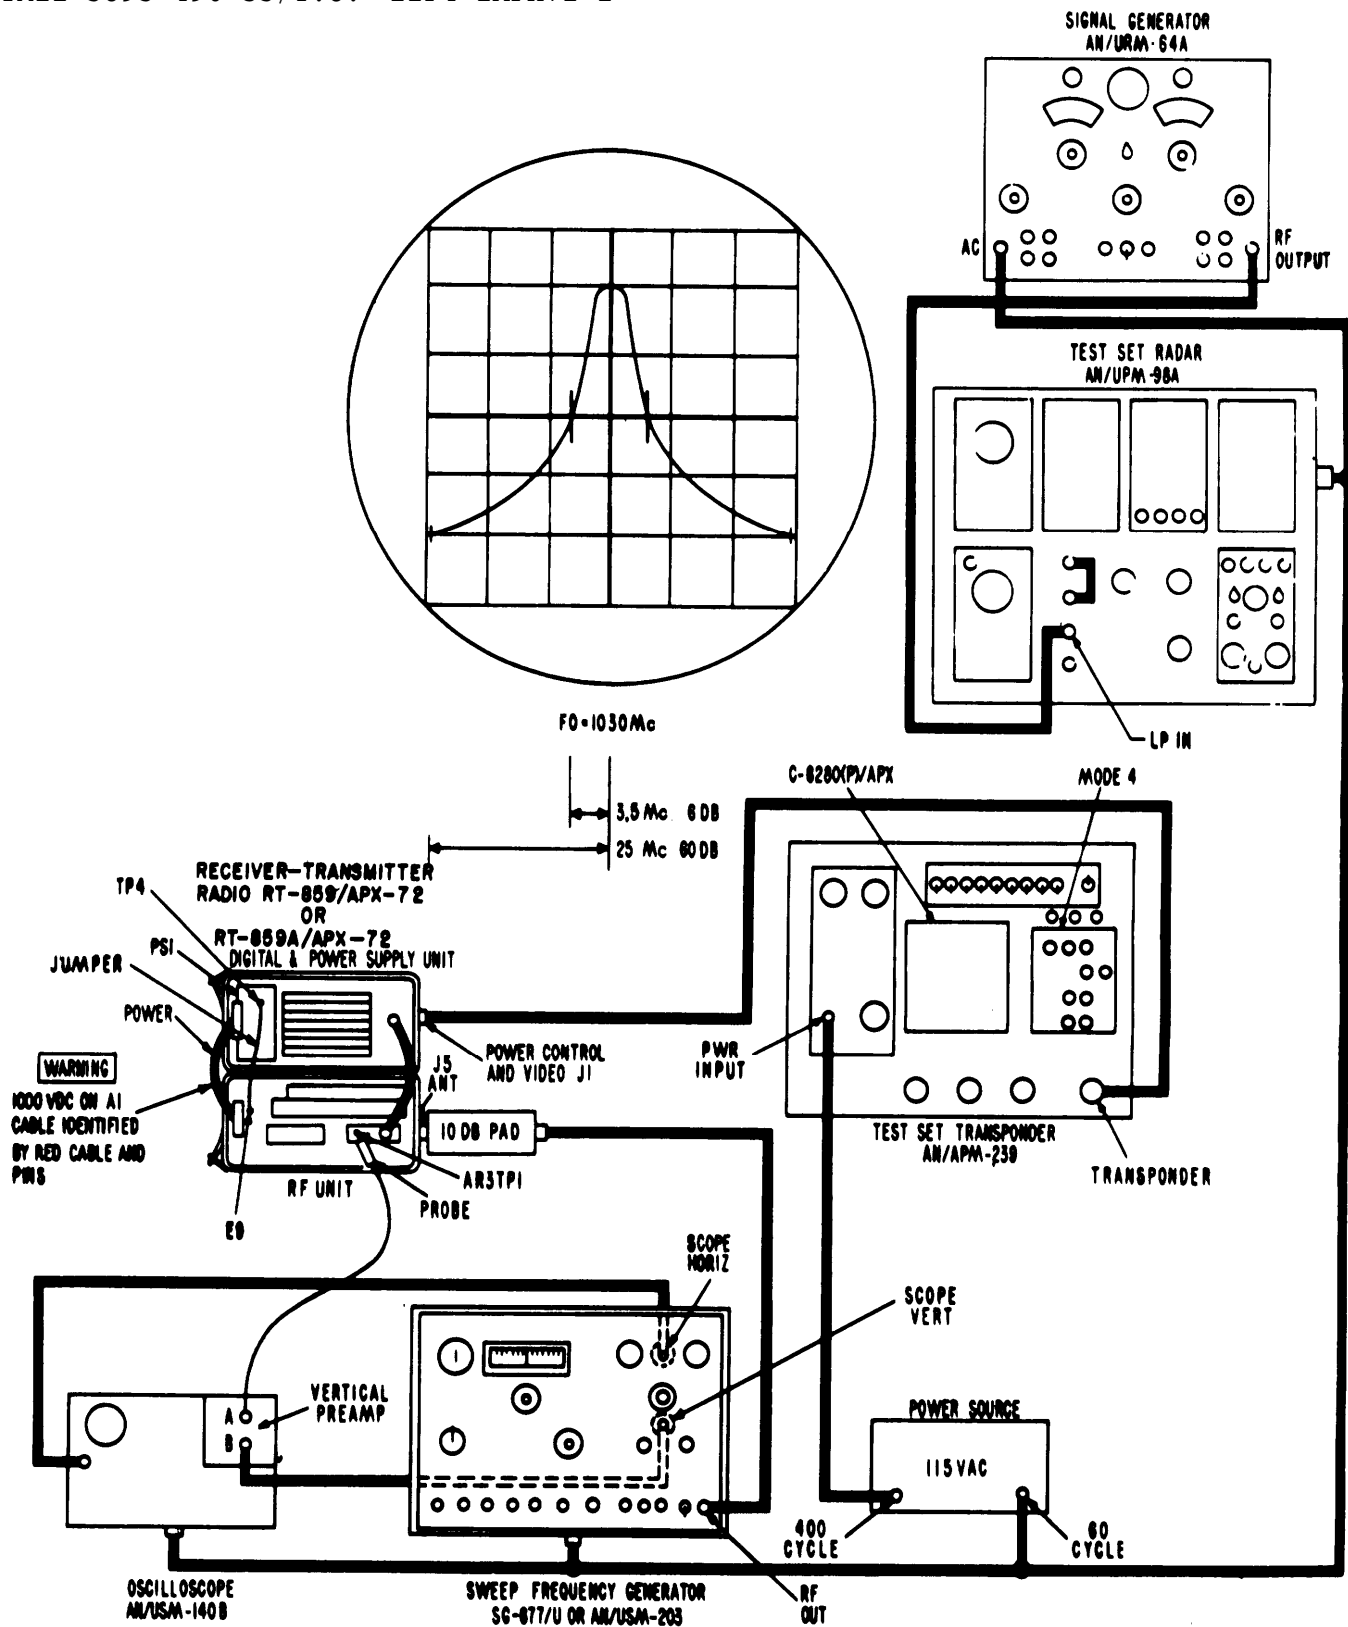

Figure 4-37. Receiver Alignment Test Setup, Using AN/UPM-98A Test Set
a. Alignment Using Radar Test Set AN/UPM-98A. To perform a complete alignment of the receiver-transmitter, follow the instructions in table 4-43. The preliminary connections and procedures for step 1 of table 4-43 are described below and shown in figure 4-37. The connections and procedures for steps 2 through 14 are described in paragraph 4-15a. and shown in figure 4-12.
1. Receiver alignment	a. Connect equipment as re-scribed in paragraph 4-36a. and shown in figure 4-37.